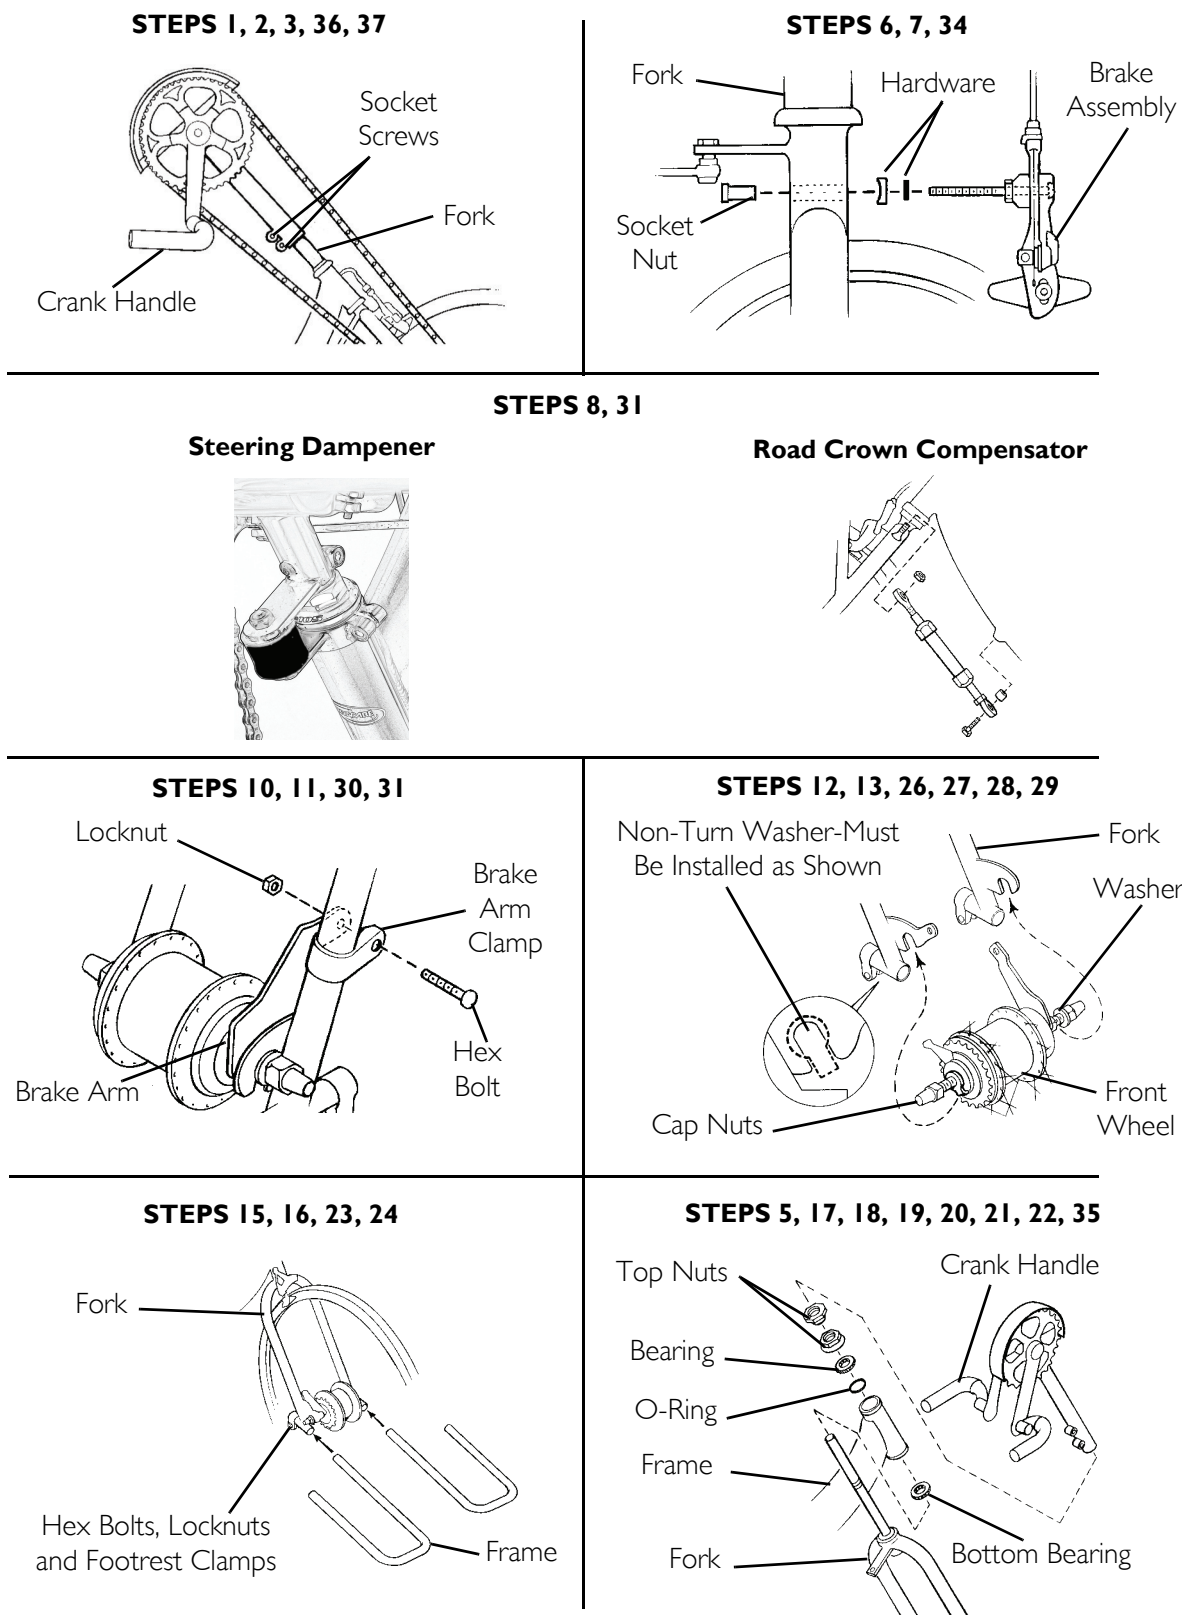

FIGURE 8.1 Replacing the Fork/Crank Assembly
NOTE: For this procedure, refer to FIGURE 8.1 on page 48.
19. Slide the bottom bearing onto the new fork. Refer to FIGURE 8.1 for correct orientation.
21. Position the o-ring and bearing on the new fork. Refer to FIGURE 8.1 for correct orientation.
22. Install the two nuts onto the new fork and tighten securely. Refer to FIGURE 8.1 for correct orientation.